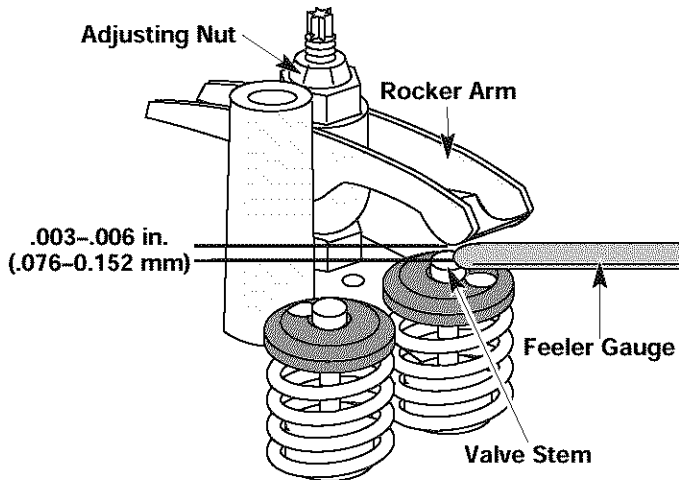

Fig. 41
The recommended clearance for both intake and exhaust is .003 – .006 in. (.076 – 0.152 mm). Use a standard automotive .005 in. (0.127 mm) feeler gauge. The feeler gauge should slide between the rocker arm and valve stem with a slight amount of resistance, without binding (Fig. 41).
- Turn the adjusting nut using a 5/16 inch (8 mm) wrench or nut driver (Fig. 41).